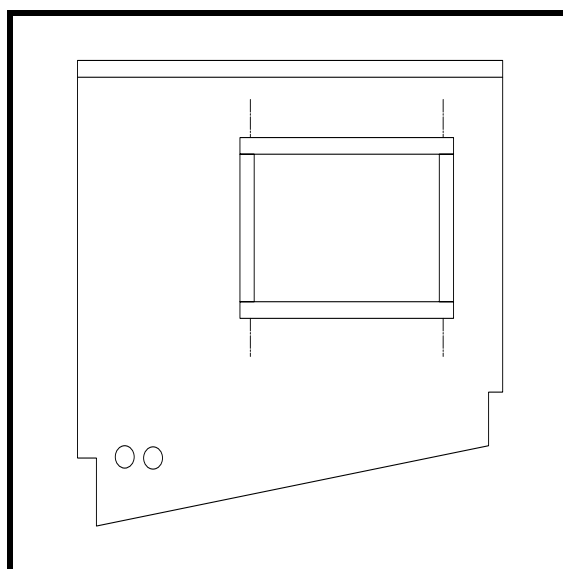

Figure 32
- ❑ Use 15x15 spruce strips and install a "picture frame" for the battery as shown in Figure 32.
- ❑ Install a 15x15 spruce strip along the centerline of the aircraft. See Figure 32.